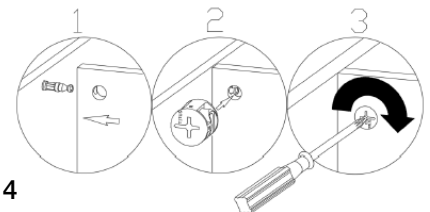

Figure 4
6. Install locking lugs (e) into designated holes, and then lock them with a screwdriver. (Figure 4)